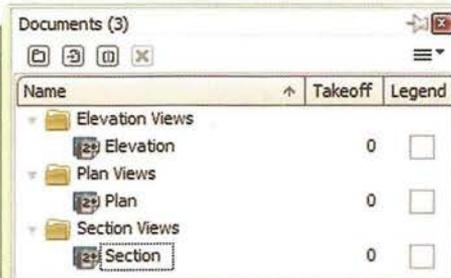

Fig 26: Sheet Rename
- Rename the sheets as follows (Figure 26).